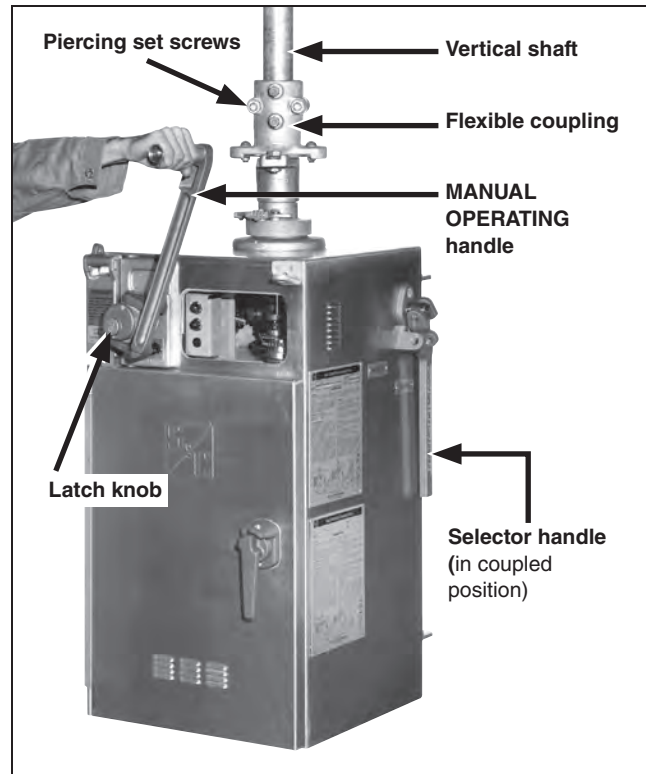

Figure 46. Manually operating the disconnect with the MANUAL OPERATING handle.
- STEP 2.** Release the latch knob while continuing to pivot the handle forward to lock it into the **Cranking** position. See Figure 46. (As the handle is pivoted forward, the motor brake is mechanically released, both leads of the control source are automatically disconnected, and both the “opening” and “closing” motor contactors are mechanically blocked in the **Open** position.)